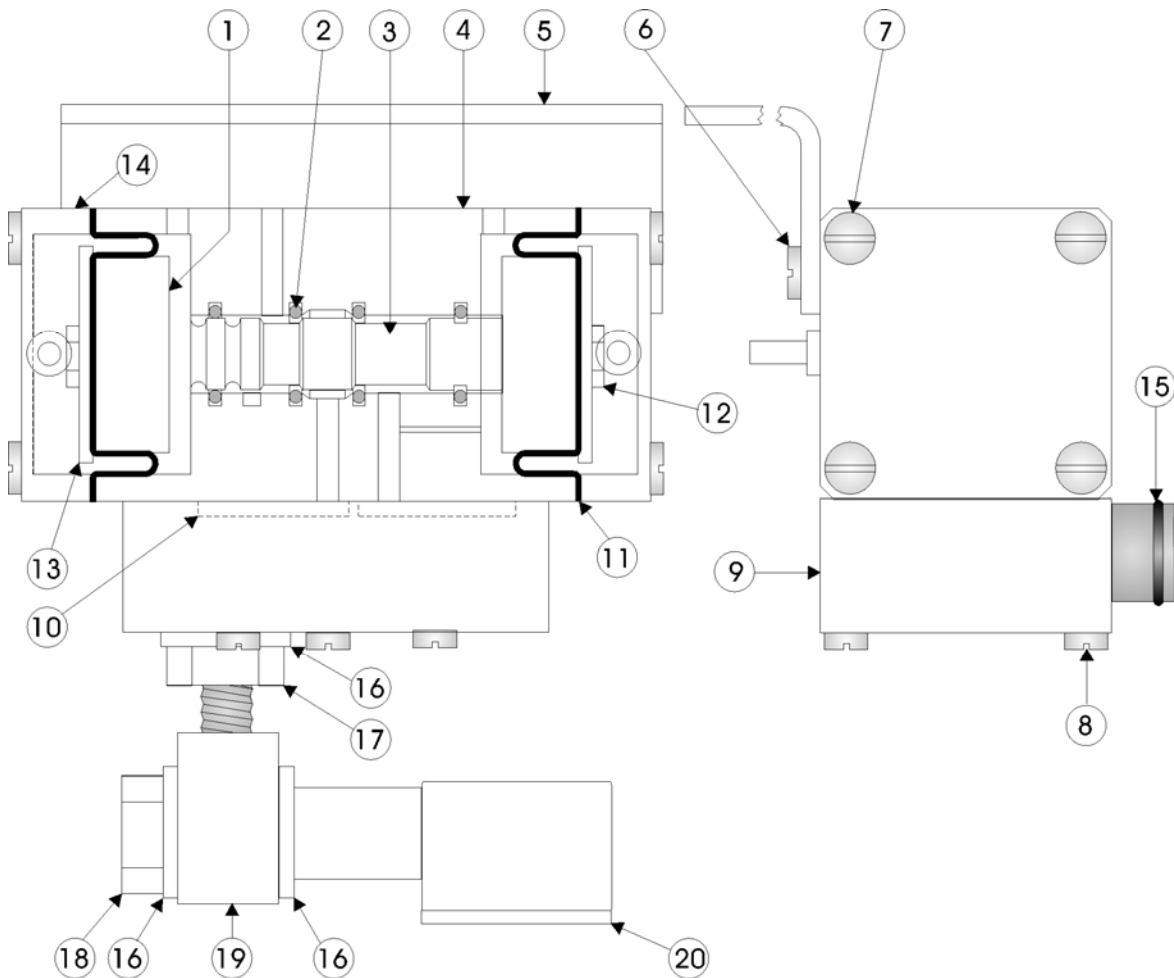

Figure 5-6 - Differential Gap Control Unit
5.6 DIFFERENTIAL GAP CONTROL UNIT (see Figure 5-6)